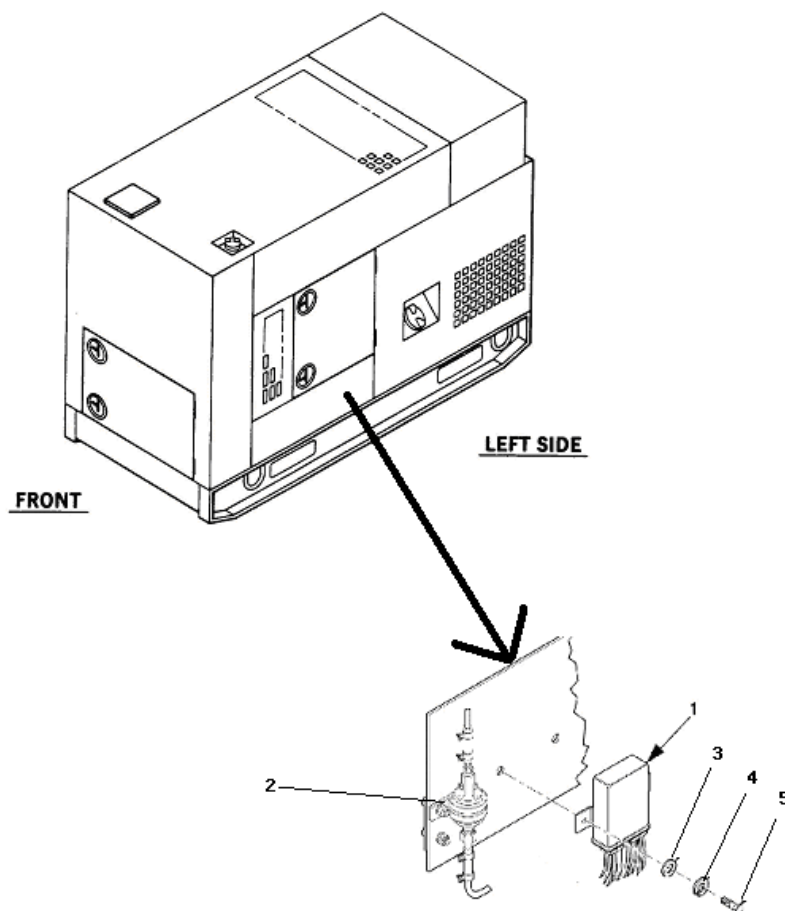

**Figure 5-4. Coolant Outlet Hose Assembly**
13. Remove plug from water pump, part of engine, and install elbow (1), Figure 5-4, then stand-off (2). Install 90° preformed side of hose (4) to heater coolant return. Route hose (4) along left side panel above door and attach to stand-off (2). Secure with clamp (3). Secure hose (4) to left side panel using clamp (5), screw (6), flatwasher (7), lock washer (8), and nut (9) in hole provided in step 12. If necessary, trim hose (4) to prevent hose from sagging during operation. Secure end of hose (4) to heater with clamp (3).